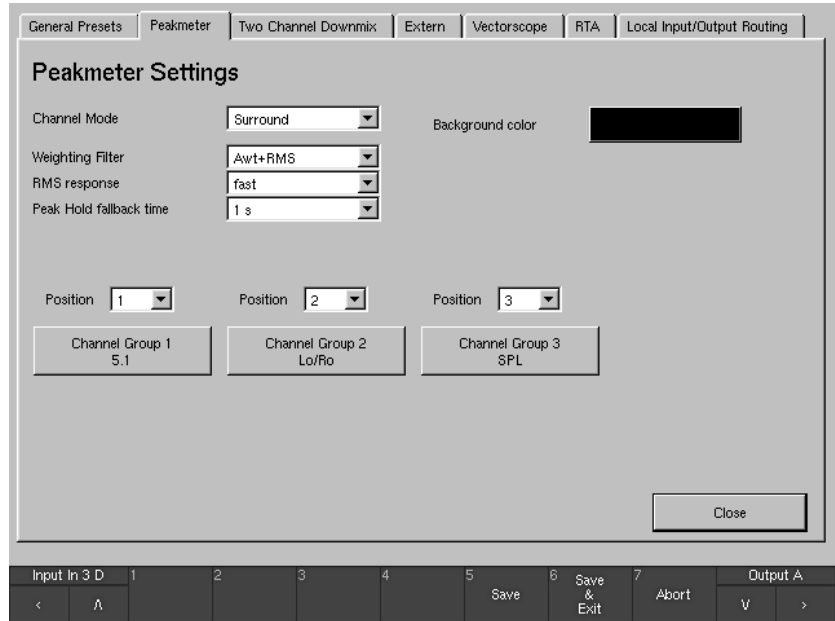

Fig. 4-5: The Peakmeter menu tab in Surround mode
(Peakmeter Settings, see Figs. 4-5 and 4-6)
See Fig. 4-5 and Chapter 4.13
- Surround mode: 3 groups (see Fig. 4-5 and Chapter 4.13)